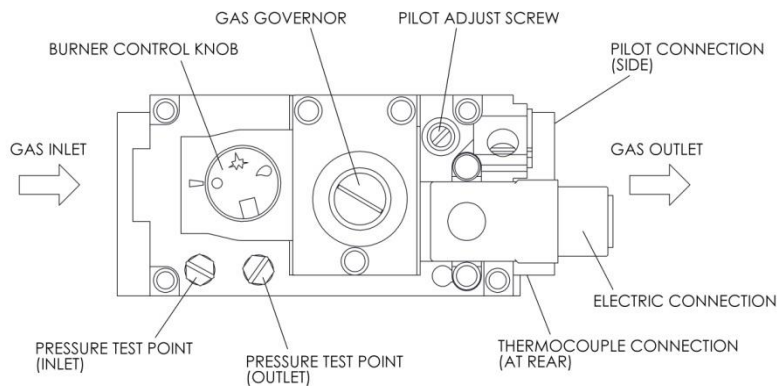

Figure 1
### 3.8 GAS CONTROL UNIT (Multifunctional Control Valve) including Solenoid assembly. Fig 1.
- a) Refer to Figure 1. Remove screw from outlet test point and connect manometer. Remove protective cap on governor.
- e) The pilot flame should envelop 6 to 10mm of thermocouple tip. Turn adjustment screw clockwise to decrease, or anti-clockwise to increase pilot flame. Fig 1.